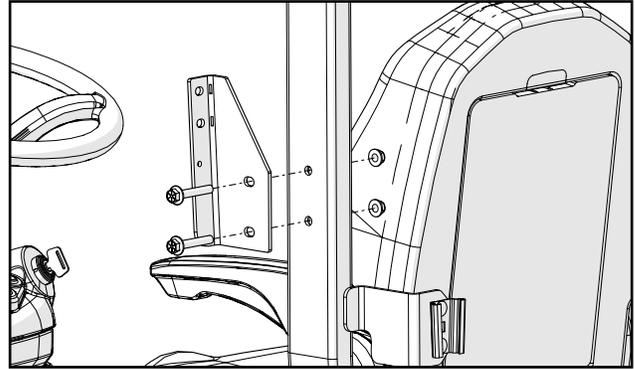

Fig. 2.1 (Assemble Brackets to ROPS)
- 2.1** Install the left ROPS Bracket onto the outside of the ROPS through the holes shown. See Figure 2.1. Leave just loose enough for adjustment.